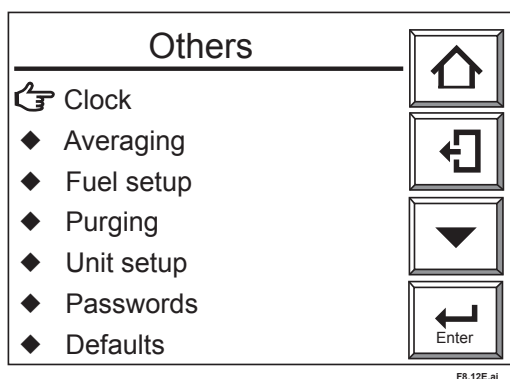

Figure 8.12 Other Settings
- (1) From the Basic panel display if you touch the [Setup] key, the Execution/Setup display appears.
- (2) Select “Commissioning” and the Commissioning display appears.
- (3) Select “Others” and the display of Fig 8.12 appears.